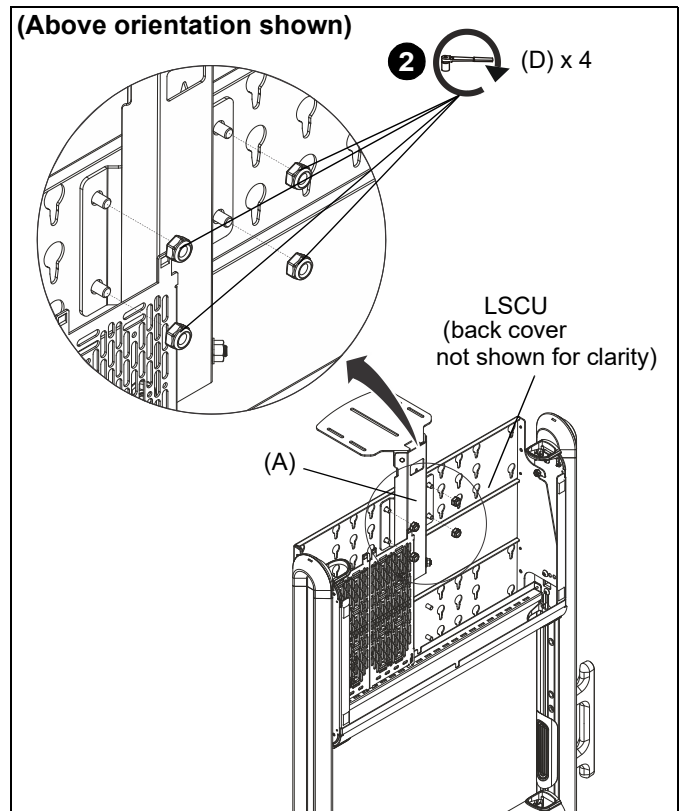

Figure 2
1. Use four M8 hex nuts (D) to secure attachment plate (A) to designer cart. (See Figure 2)